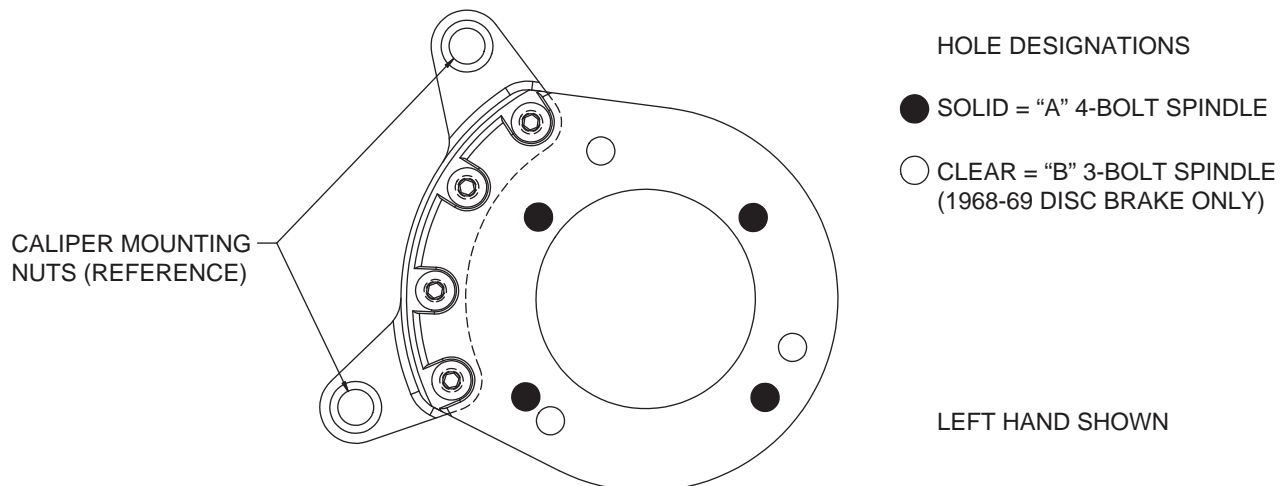
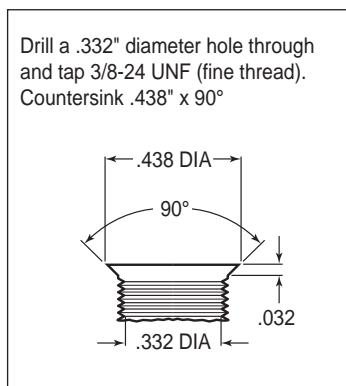
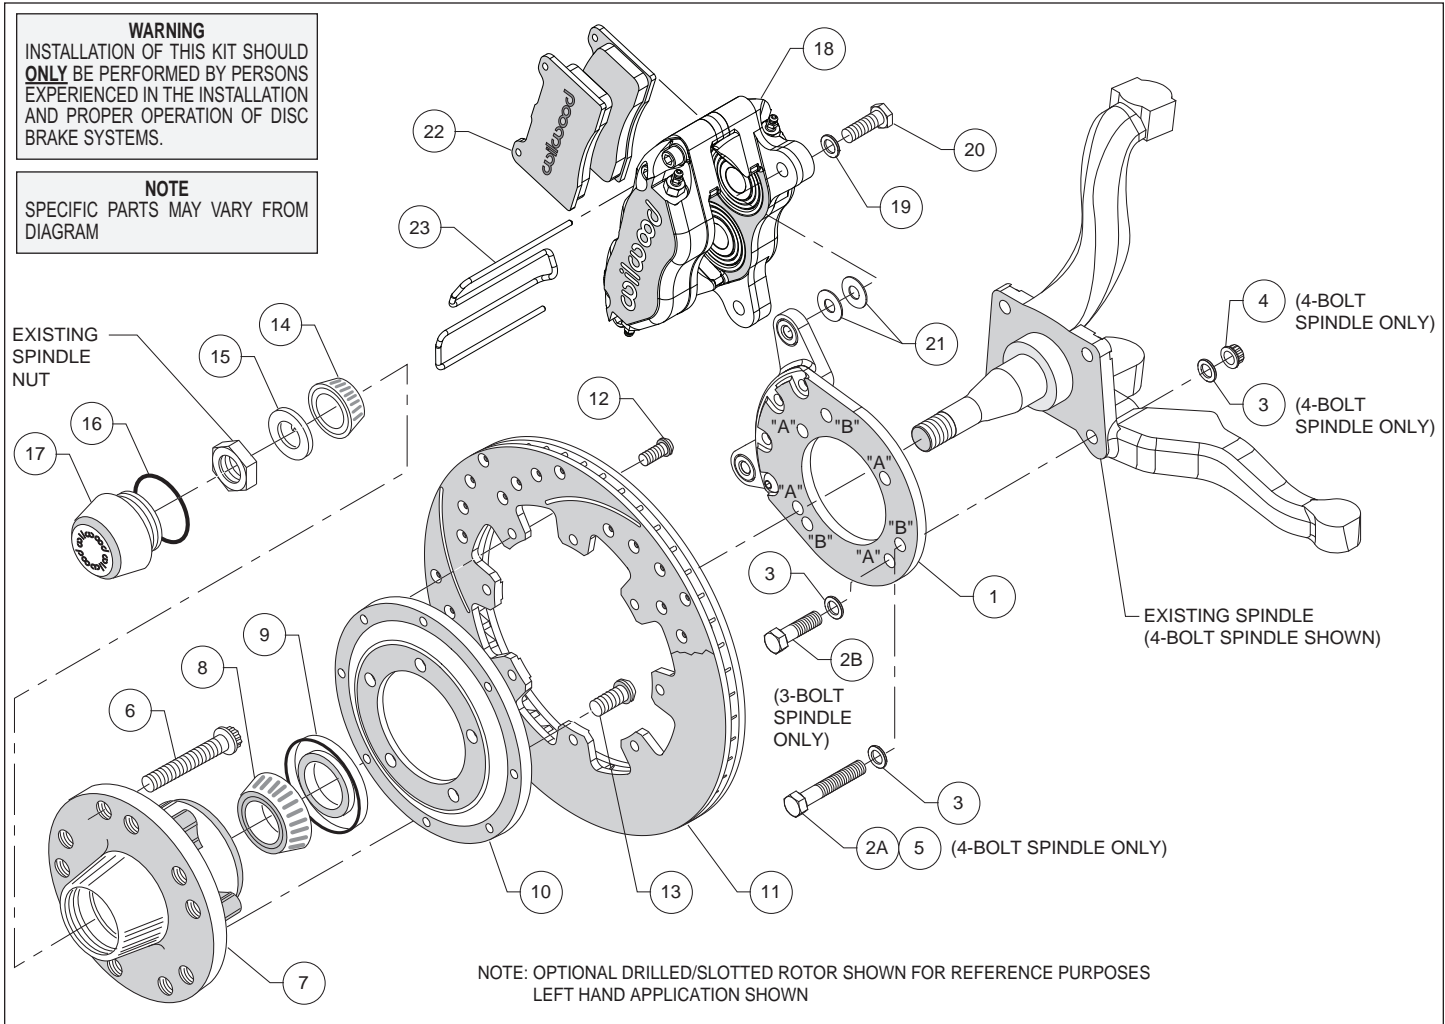
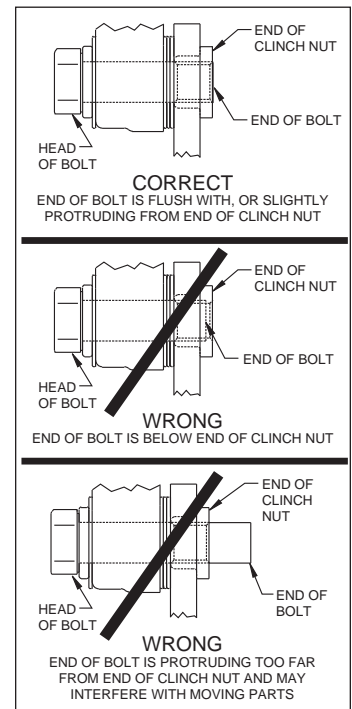

Figure 1. Wilwood Caliper Mounting Bracket
Figure 2. Drill and Tap Detail
Figure 4. Typical Installation Configuration
Figure 5. Clinch Nut Engagement Diagram
This kit has been designed for use with both three and four bolt spindle configurations. The only difference is in how the Wilwood caliper mounting bracket is installed. The same bracket is used for both configurations; only the 1968-69 disc brake spindle utilizes three mounting holes while all other spindles use the four mounting holes (see Figure 1). For your convenience we have supplied bolt kits for both applications (see parts list and Figure 4 as necessary). Use the bolt kit that is applicable to your vehicle and disregard the other one.
Using the caliper mounting bracket as a template (refer to Figure 1 as necessary), locate and verify the three original holes on the spindle that need to be modified. Drill a .332" diameter hole through all three holes, then tap 3/8-24 UNF (fine thread). Countersink the holes to .438" diameter x 90°, as shown in Figure 2.
Assembly Instructions (numbers in parenthesis refer to the parts list, and Figure 4 on the preceding pages): **CAUTION:** All mounting bolts must fully engage clinch nuts. Be sure to check that all bolts are either flush or protruding through flanged side of clinch nut after shimming, Figure 5.
•**NOTE:** This kit uses the same mounting bracket (1) for both the three and four bolt brake spindles. The 4-bolt version, Photo 1, uses four mounting bolts (designated "A"), while the 3-bolt version, Photo 2, uses three (designated "B"). Refer to Figures 1 and 4 for the basic installation position of the bracket and the "A" and "B" reference designations (not physically marked on the brackets).
For 4-Bolt Spindle: Align bracket, using the four "A" holes, to the face of the spindle and attach using bolts (2A and 5), washers (3), and lock nuts (4), as shown in Figure 4. Ensure that the flanged heads of the clinch nuts in the bracket are facing outboard, Photo 1. Torque lock nuts to 30 ft-lb.
For 3-Bolt Spindle (1968-69 Disc Brake): Align bracket, using the three “B” holes, to the face of the spindle and attach using bolts (2B) and washers (3), as shown in Figure 4. Finger tighten. Ensure that the flanged heads of the clinch nuts in the bracket are facing outboard, Photo 2. Remove bolts one at a time, apply red *Loctite*® 271 to threads, and torque to 40 ft-lb.
- Install wheel studs (6) into the hub (7), Photo 3. Torque to 77 ft-lb. **NOTE:** There are two five lug patterns in the hub (5 x 4.50 and 5 x 4.75). Ensure the correct hub stud pattern is being used to fit the wheel application.
- Pack the large inner bearing cone (8) with high temperature disc brake bearing grease (available from your local auto parts store) and install into the backside of the hub (7), Photo 4.
- Install the grease seal (9) by pressing into the backside of the hub (7), flush with the end of the hub, Photo 4.
- Orient the rotor (11) and the rotor adapter (10) as shown in Figure 4 and Photo 5. Attach the rotor to the adapter using bolts (12). Using an alternating sequence, apply red *Loctite*® 271 to the threads, and torque to 25 ft-lb.
- Mount the adapter/rotor assembly (10/11) to the hub (7) using bolts (13), as shown in Figure 4 and Photo 6. Using an alternating sequence, apply red *Loctite*® 271 to the threads, and torque to 45 ft-lb.
- Pack the small outer bearing cone (14) with high temperature disc brake bearing grease and install into hub (7). Slide the hub/rotor assembly onto the spindle. Secure using spindle washer (15) and OEM spindle nut, Photo 7. Adjust bearings per OEM specifications. Install saved OEM nut lock (if any) and a new cotter pin (not included).
- Screw dust cap (17) into hub (7), Photo 8. Friction created by the o-ring (16) on the dust cap keeps it from unscrewing. **NOTE:** The O.D. of the existing OEM spindle washer may be larger than the I.D. of the dust cap not allowing it to seat against the hub face. Therefore, use the spindle washer (15) supplied with the kit instead of the OEM washer.
- NOTE:** Please reference the caution statement at the beginning of the assembly instructions. Mount the caliper (18) onto the caliper mounting bracket (1) using bolts (20) and washers (19), as shown in Figure 4. Initially place two .035” thick shims (21) on each bolt between the caliper and the bracket, Photo 9. Temporarily tighten the mounting bolts and view the rotor (11) through the top opening of the caliper. The rotor should be centered in the caliper, Photo 10. If not, adjust by adding or subtracting shims between the bracket and the caliper. Always use the same amount of shims on each of the two mounting bolts. **NOTE:** The end of each bolt must be flush with or slightly protruding from the head of the clinch nut, as shown in Figure 5. If necessary place spare shims between washer (19) and caliper